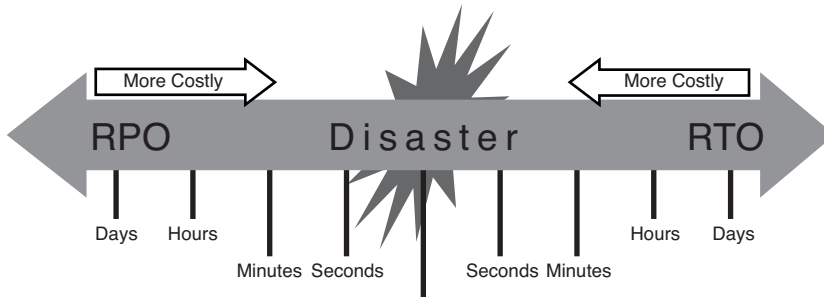

FIGURE 16.1 Both RPO and RTO reflect a time versus cost relationship.
5. Identify business practices and technology solutions that, together, can meet the organization's RPO and RTO targets in the most cost-effective manner (see Figure 16.1).